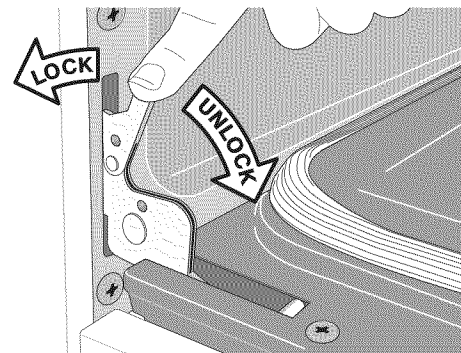

Figure 18: Door hinge locks
2. Pull the door hinge locks on both left and right door hinges down from the oven frame completely toward the oven door (Figure 18). A tool such as a small flat-blade screwdriver may be required.
4. Push the door hinge locks up towards and into the oven frame on both left and right oven door hinges to the locked position (Figure 18).